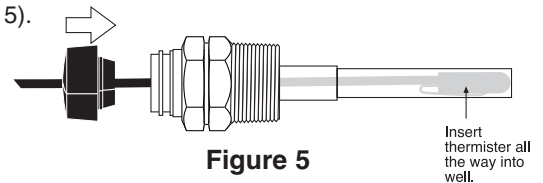

Figure 5
STEP 7 Insert sensor all the way into well. Install rubber well cap onto sensor wire and slide to cover end of well (Figure 5).